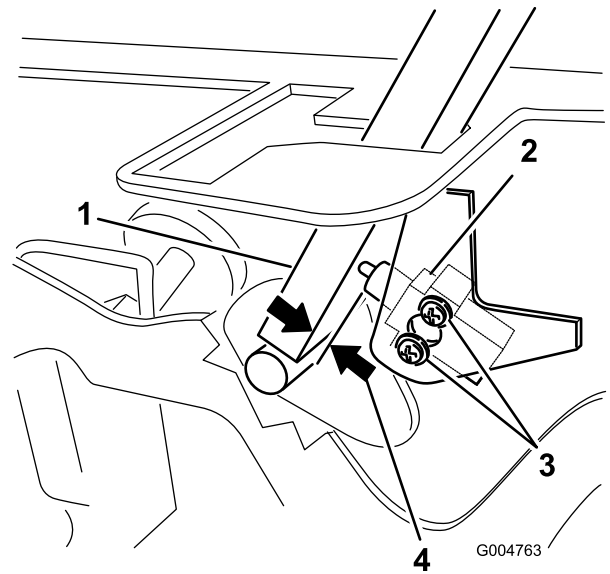

Figure 52
3. Loosen the 2 screws securing the interlock switch (Figure 52).
4. Holding the control lever against the frame, move the switch toward the lever until the distance between the lever and switch body is 0.4 to 1 mm (0.015 to 0.045 inch) as shown in Figure 52.